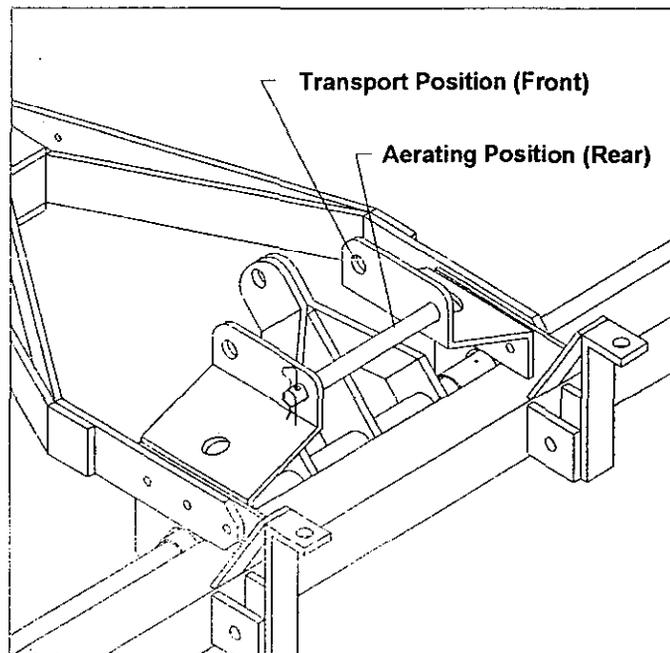

Figure 2
1. Move the lock pin to the rear (aerating) position. See Fig. 2.
6. When transporting the Aerator 686, place the lock pin in the front hole. This prevents the aerator from dropping in case of accidental release of oil in the lift cylinder. See Fig. 2.